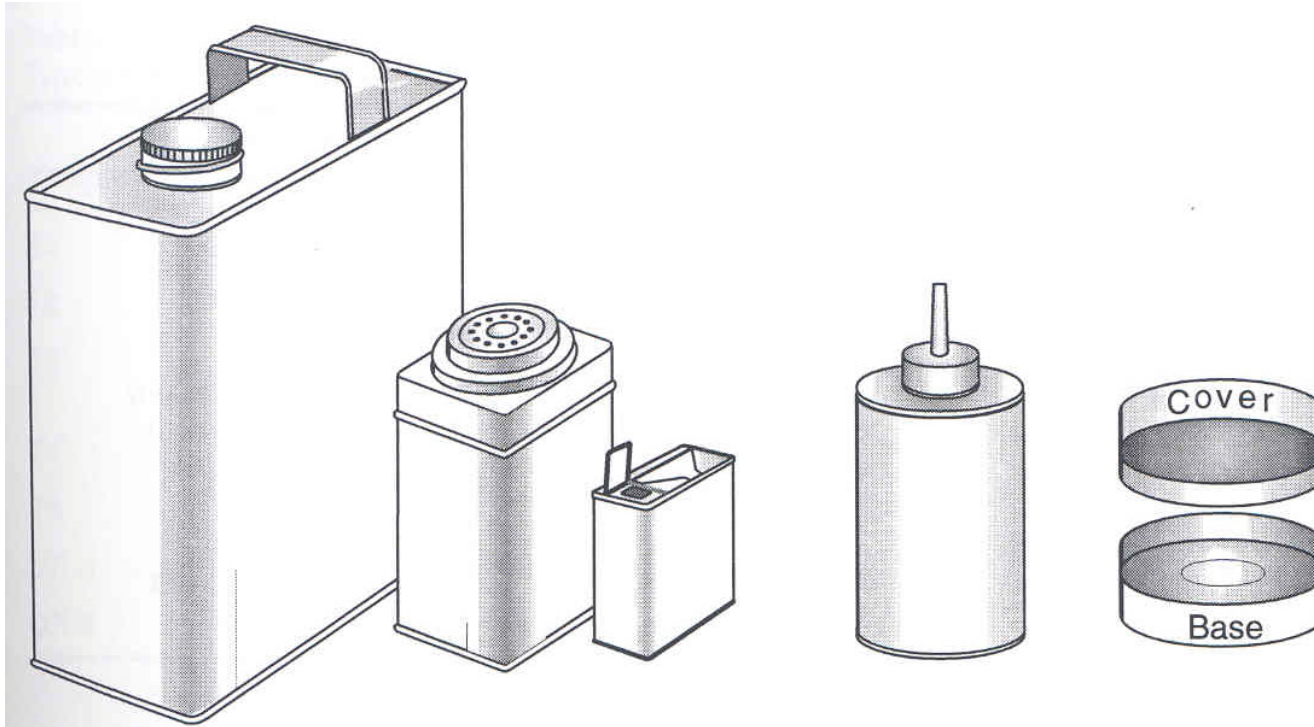

Figure 5.2 Examples of specialized can shapes
Flat round cans of drawn steel or aluminum with slipcovers (Figure 5.2)
- Three-piece steel or aluminum ovals, typically fitted with a dispensing spout (Figure 5.2)
- Oblong steel three-piece F-style cans (Figure 5.2)